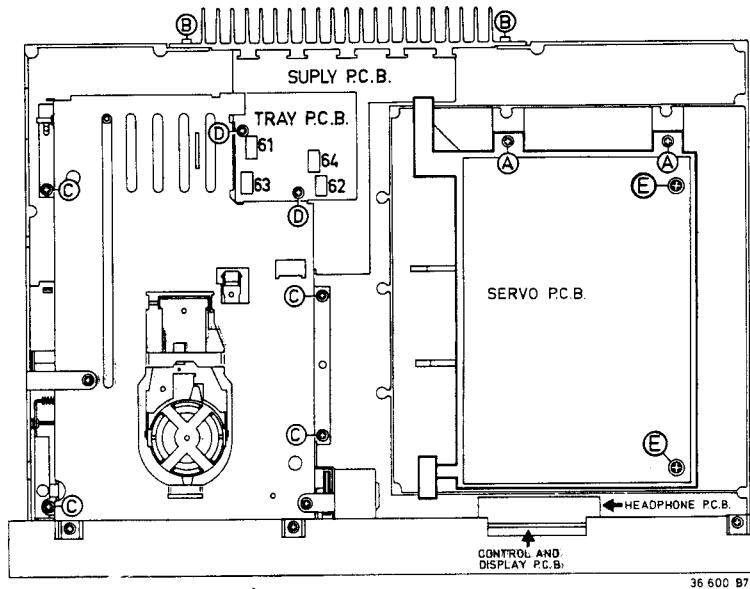

Fig. 3a
- Remove the 2 screws B (see Fig. 3a).
SERVICING THE SERVO PCB AND THE DECODER PCB (see Fig. 3a)
- Remove the 4 screws C (see Fig. 3a).